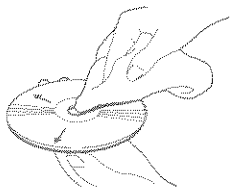

Fig. 21
- Dust and/or finger smudges will have no direct effect on the signal recorded on the disc, but dirt can decrease the amount of light reflected from the recorded surface, thus affecting sound quality. If the disc should become soiled, gently wipe the surface with a soft lint-free cloth, wiping from the center of the disc to the edge. (Fig. 21)